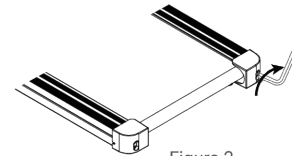

Figure 2
- If the walk belt has shifted to right, use the hex tool to turn the right idler roller screw clockwise 1/4 of turn (refer to figure 2).